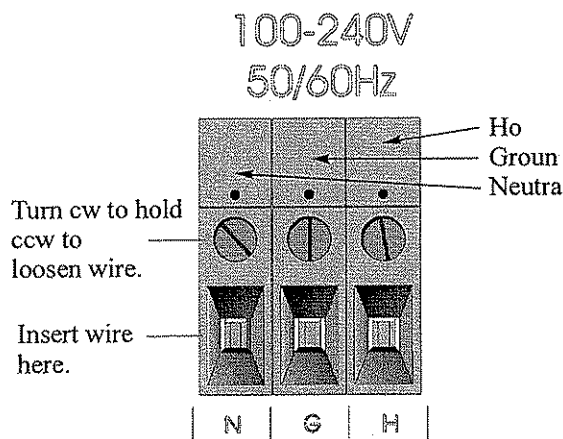

Figure 3-4: Primary Input Power Connections
**Primary Input Power:** The universal power supply requires a 100-240V ac, 50/60 Hz power source. See Figure 3-4 for detailed connections.